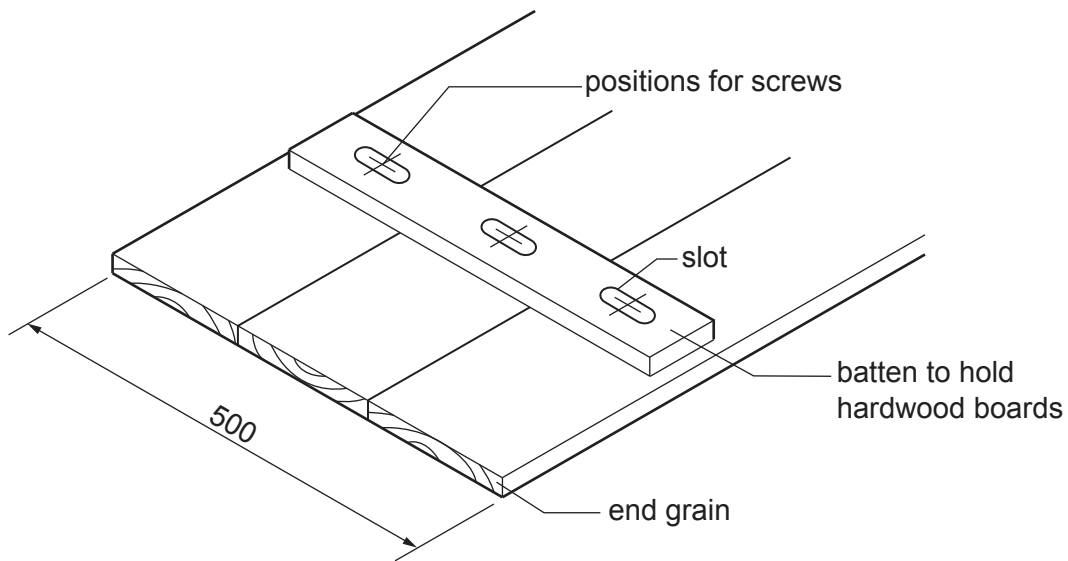

Fig. 10.1
- 10 Fig. 10.1 shows the underside of a table top.
- (b) Explain why the boards have been glued together with the end grains arranged as shown in Fig. 10.1.
- (c) Fig. 10.1 shows a batten that is used to hold the three hardwood boards.